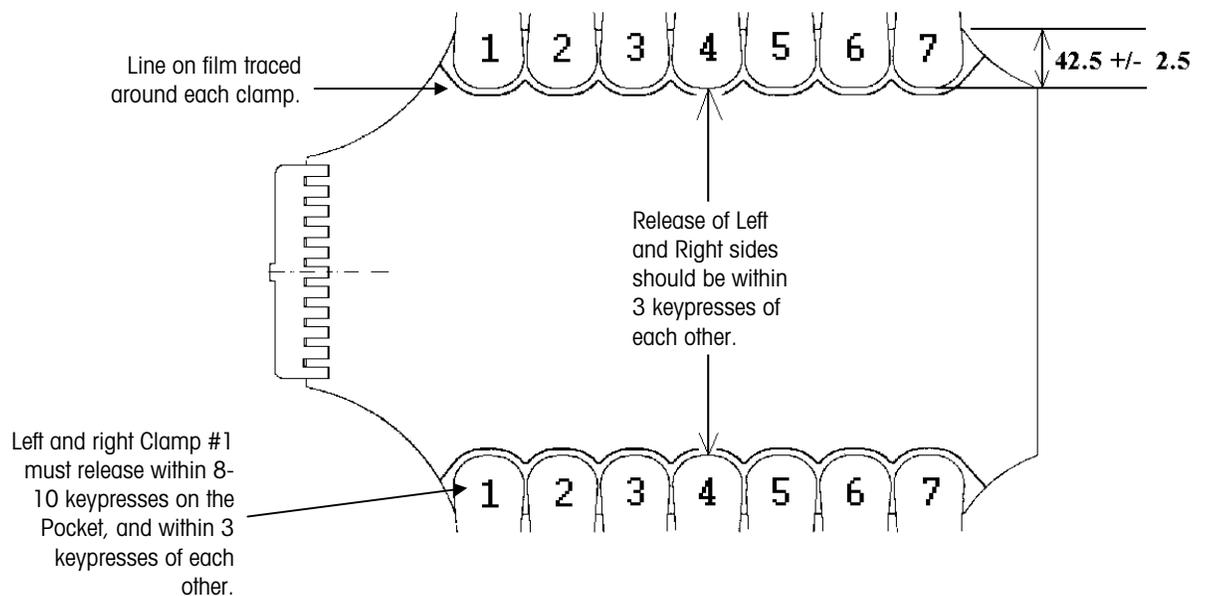

Figure 7-36
9. Press and hold the <ENTER> key on the pocket and observe the film release. The film should be released first from the end closest to the clamp opening cam within the previously set 8-10 keypresses. As <ENTER> is continually pressed, the film should be subsequently released from clamps 1, 2, 3, and so on. See Figure 7-36.
Test 808 should be used to verify the release timing of the side clamps, as well as the film tracking. When this test is run, the quantity of film grasped by each Side Clamp must be equal within 6mm (Figure 7-36). This is to verify the film is centered in the machine. If the film is not centered within this tolerance, refer to the section on Film Tracking.